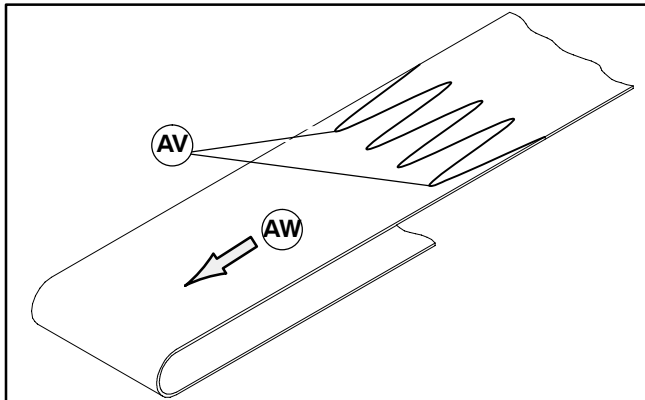
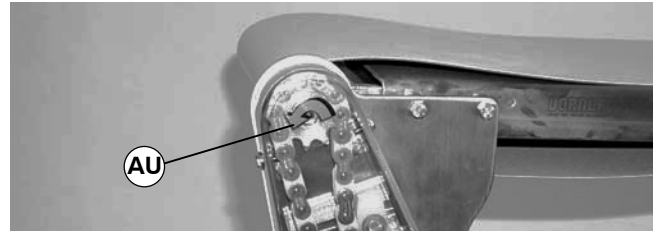

Figure 25
Figure 26
1. Orient conveyor belt so the splice leading fingers (AV of Figure 25) point in the direction of belt travel (AW) as identified by the label (AU of Figure 26).
IMPORTANT: On a flat belt conveyor, the wiper is installed on discharge end. Belt travel direction is identified by an arrow decal on the drive cover (AU of Figure 26).
1. Orient conveyor belt so that the splice leading fingers (AV of Figure 25) point in the direction of belt travel (AW) as identified by the label (AU of Figure 26).